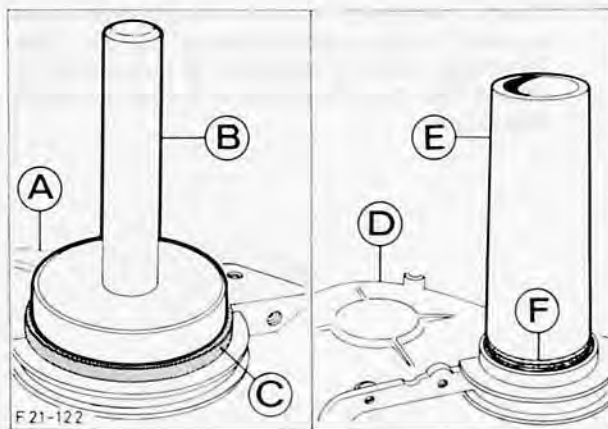

Fig. 53. Press in oil seals
34. Press oil seal into oil seal carrier using Special Tool 21-030 and oil Seal into timing cover using a suitable tube, Fig. 53.